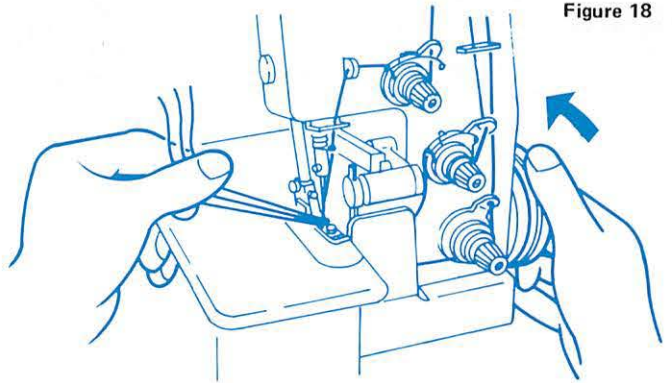

Figure 18
- (1) After the completion of threading, hold the ends of three threads with the fingers of the left hand creating a minor tension as shown in Figure 18 and turn the flywheel with the right hand in the clockwise direction. Confirm that three threads are intertwining. Then, set the cloth, and begin to sew. (Figure 18)